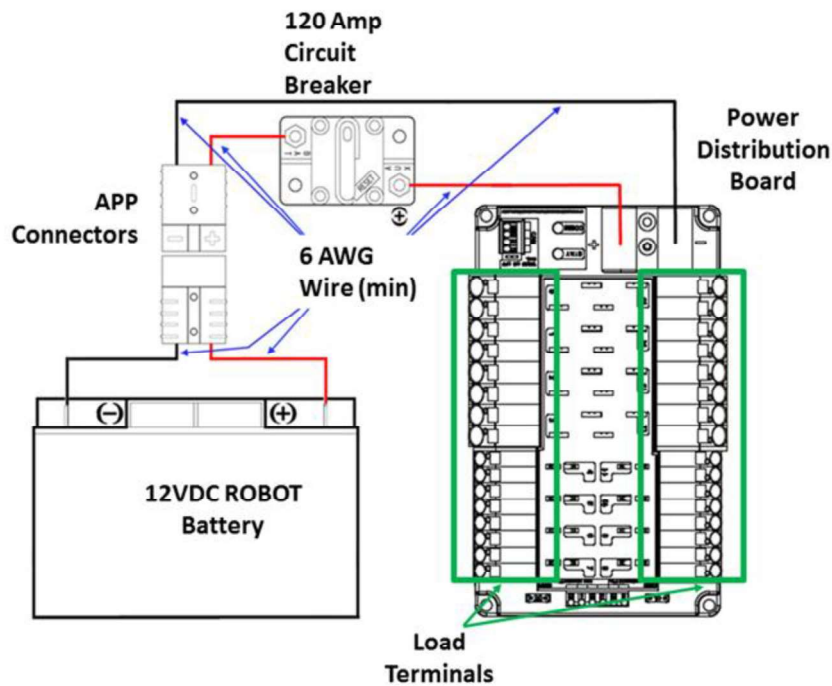

Figure 10-9 Electrical connection diagram
R47. The one (1) ROBOT battery, a single pair of Anderson Power Products (or APP) 2-pole SB type connectors, the one (1) main 120-amp (120A) surface mount circuit breaker (Cooper Bussman P/N: CB185-120, CB185F-120, CB285-120), and the one (1) CTR Electronics Power Distribution Panel (PDP, P/N: am-2856, 217-4244, 14-806880) shall be connected with 6 AWG (7 SWG or 16 mm2) copper wire or larger, with no additional devices or modifications, as shown in Figure 10-9.
R48. All circuits, with the exceptions of those listed in R53 and R55, must connect to, and have power sourced solely by, a single protected 12VDC WAGO connector pair (i.e. the Load Terminals, as shown in Figure 10-9) of the one (1) CTR Electronics Power Distribution Panel, not the M6 cap screws.